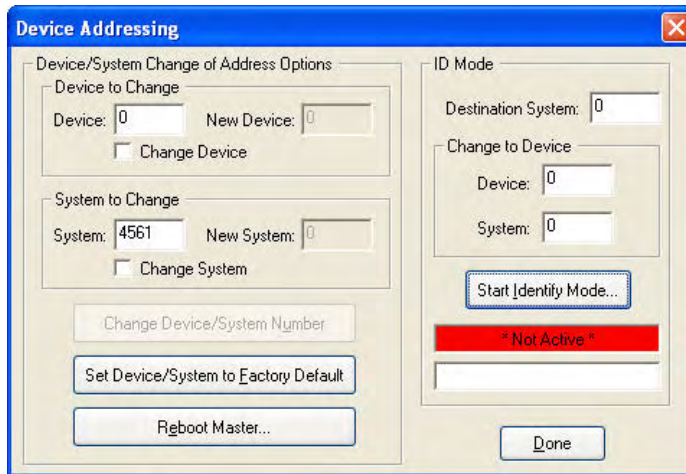

FIG. 46 NetLinx Studio - Device Addressing dialog
- If the TPI-PRO/DVI does not appear in the Online Tree in NetLinx Studio, make sure that the NetLinx Master System Number, which can be derived from NetLinx Studio's *Device Addressing* dialog (FIG. 46), is assigned correctly.
8. Enter the **System** and **Device** number for the NetLinX Master associated with your TPI-PRO/DVI, as indicated in NetLinX Studio's *Device Addressing* dialog (FIG. 46 on page 48).
- The Master's System Number can be derived from NetLinx Studio's *Device Addressing* dialog (see FIG. 46 on page 48).